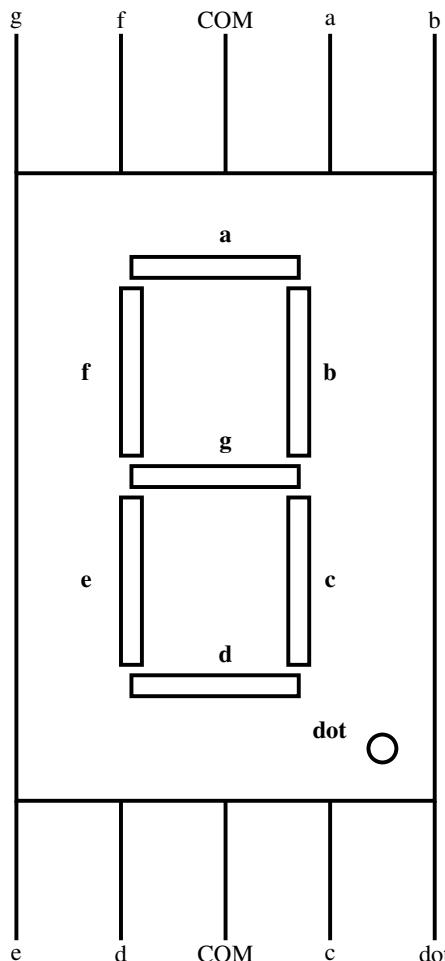

Fig. 2.2: Seven Segment pins
2. Seven Segment Display: The seven segment display in Fig. 2.2 has eight pins,  $a, b, c, d, e, f, g$  and *dot* that take an active LOW input, i.e. the LED will glow only if the input is connected to ground. Each of these pins is connected to an LED segment. The *dot* pin is reserved for the  $\cdot$  LED.
1. Make connections between the seven segment display in Fig. 2.2 and the 7447 IC in Fig. 3.1 as shown in Table 3.1